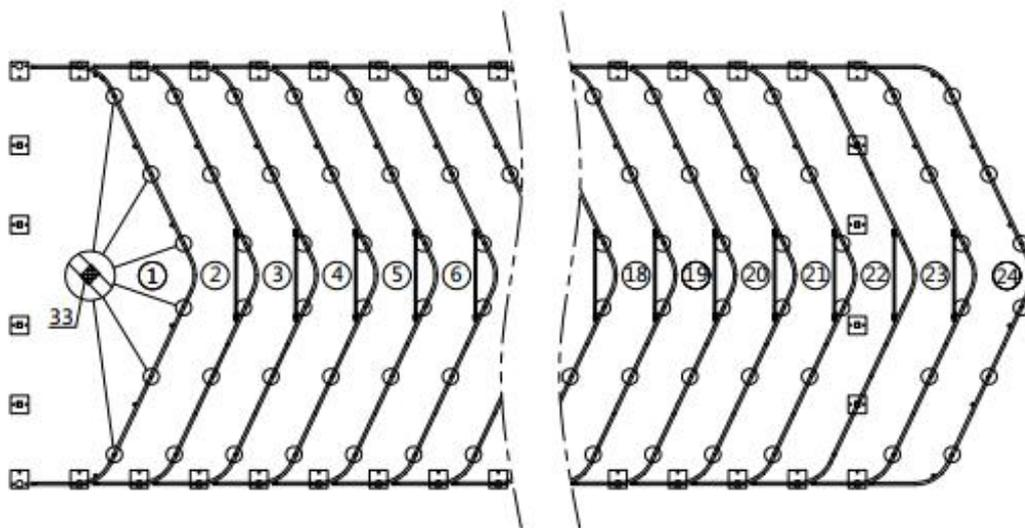

Figure 4
- Lay down all (24) trusses on the ground when the assembly is all completed and before moving to next step, and then wrap (#33) around the sharp points of the joint to avoid friction between the fabric and the interface, resulting in fabric damage. (refer to figure 4)
- (6) Adhesive tape (#33)